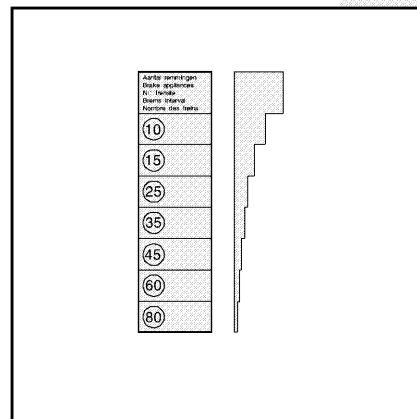

Fig. D11
2. Remove the cover (mind the gasket) and take the gauge (fig. D11) from the cover.